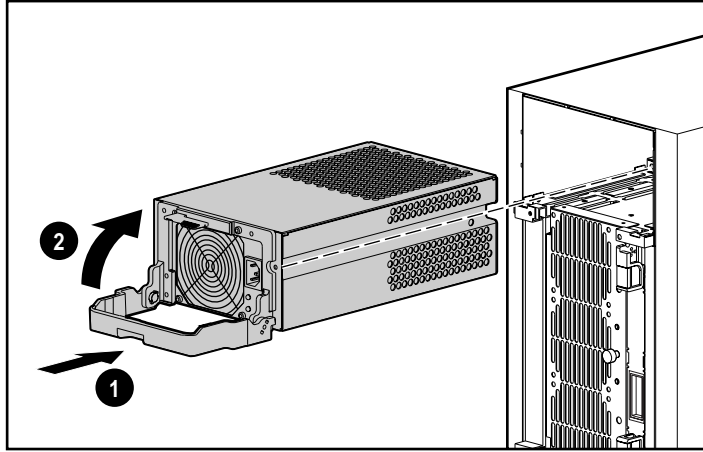

Figure 4-24. Installing the power supply
4. Pivot the handle closed until it snaps into place. This secures the power supply in the chassis. See Figure 4-24.